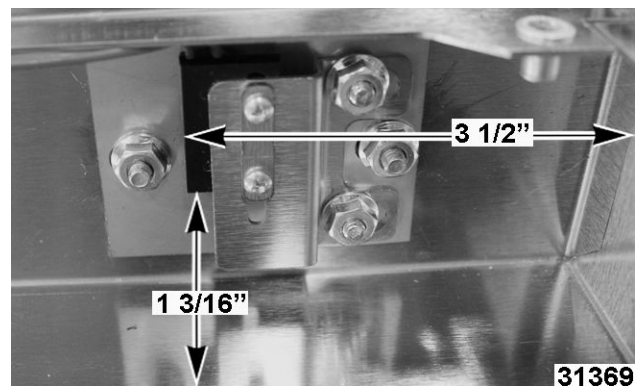

Fig. 20
7. Install switch into bracket. Must measure 3 1/2" from bottom of control box and 1-3/16" as shown in Fig. 20.